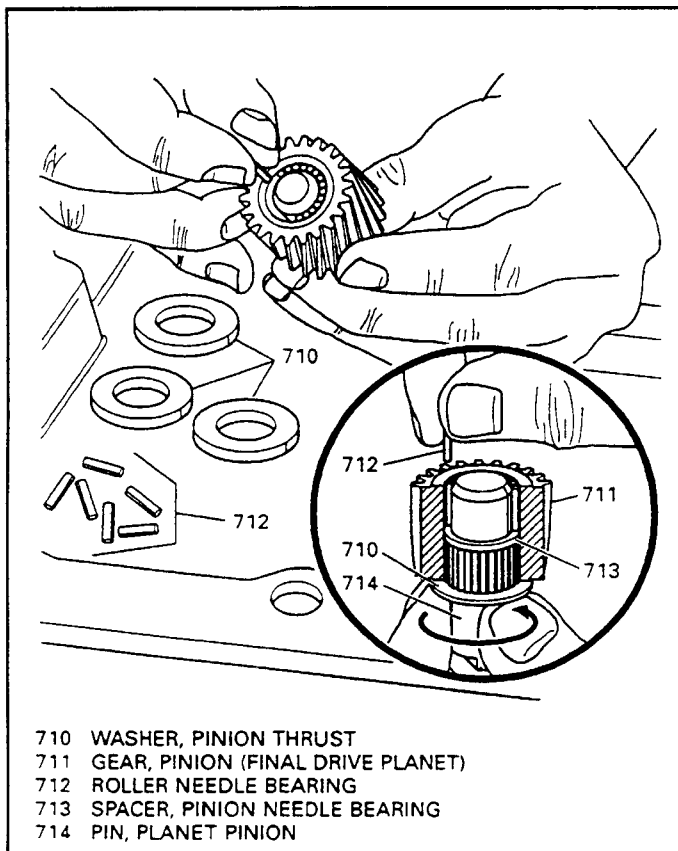

Figure 102
17. Install the needle roller bearings (712) one at a time into the planet pinion. Place thrust washer (710) on the bottom of pinion to retain bottom row of needle bearings. Use "Trans-Jel" to aid in the assembly and keep the needle bearings in place (See Figure 102).